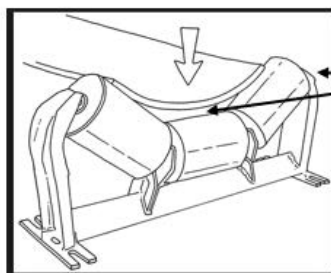
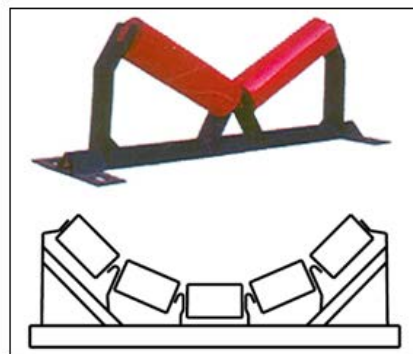

Figure No.1
Figure No.2
Friction is the primary force found during the operation of a belt conveyor – particularly critical in the area of tracking. One of the key attributes of a conveyor idler is to create a positive effect on belt tracking. As found in most conveyor belting manuals, the below diagram (Figure No.1) illustrates how important contact between the conveyor belt and conveyor idlers are in regard to tracking. It is critical that the belt makes positive contact with all installed rolls within a troughed idler set. This can mean as few as two (2) rolls or as many as five (5) (Figure No.2).